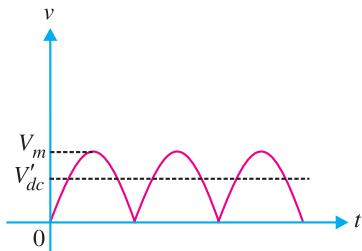

Fig. 6.46
**Solution.** The output of a full-wave rectifier has a d.c. component and an a.c. component. Due to the presence of a.c. component, the rectifier output has a pulsating character as shown in Fig. 6.46. The maximum value of the pulsating output is  $V_m$  and d.c. component is  $V'_{dc} = 2V_m/\pi$ .